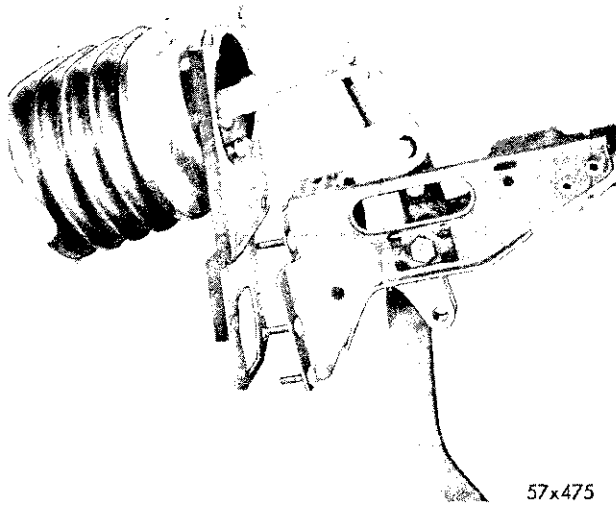

Fig. 22—Removing or Installing the Power Brake Unit (Bellows Type)
(2) Disconnect the vacuum hose at the power vent.
(3) Remove the master cylinder power unit and the bracket assembly hex nuts and lockwashers.
(4) Carefully withdraw the unit from the dash panel (Fig. 22).